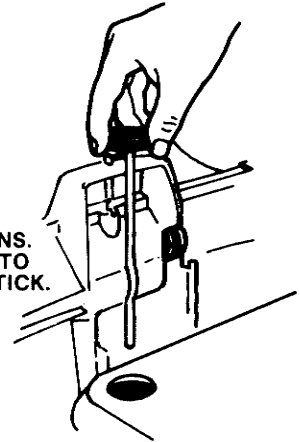

FIGURE 11
7. Remove the fill plug (see Figure 11) and fill crankcase with engine oil up to full mark on dipstick. See engine manual for recommended type of oil. Do not overfill crankcase.